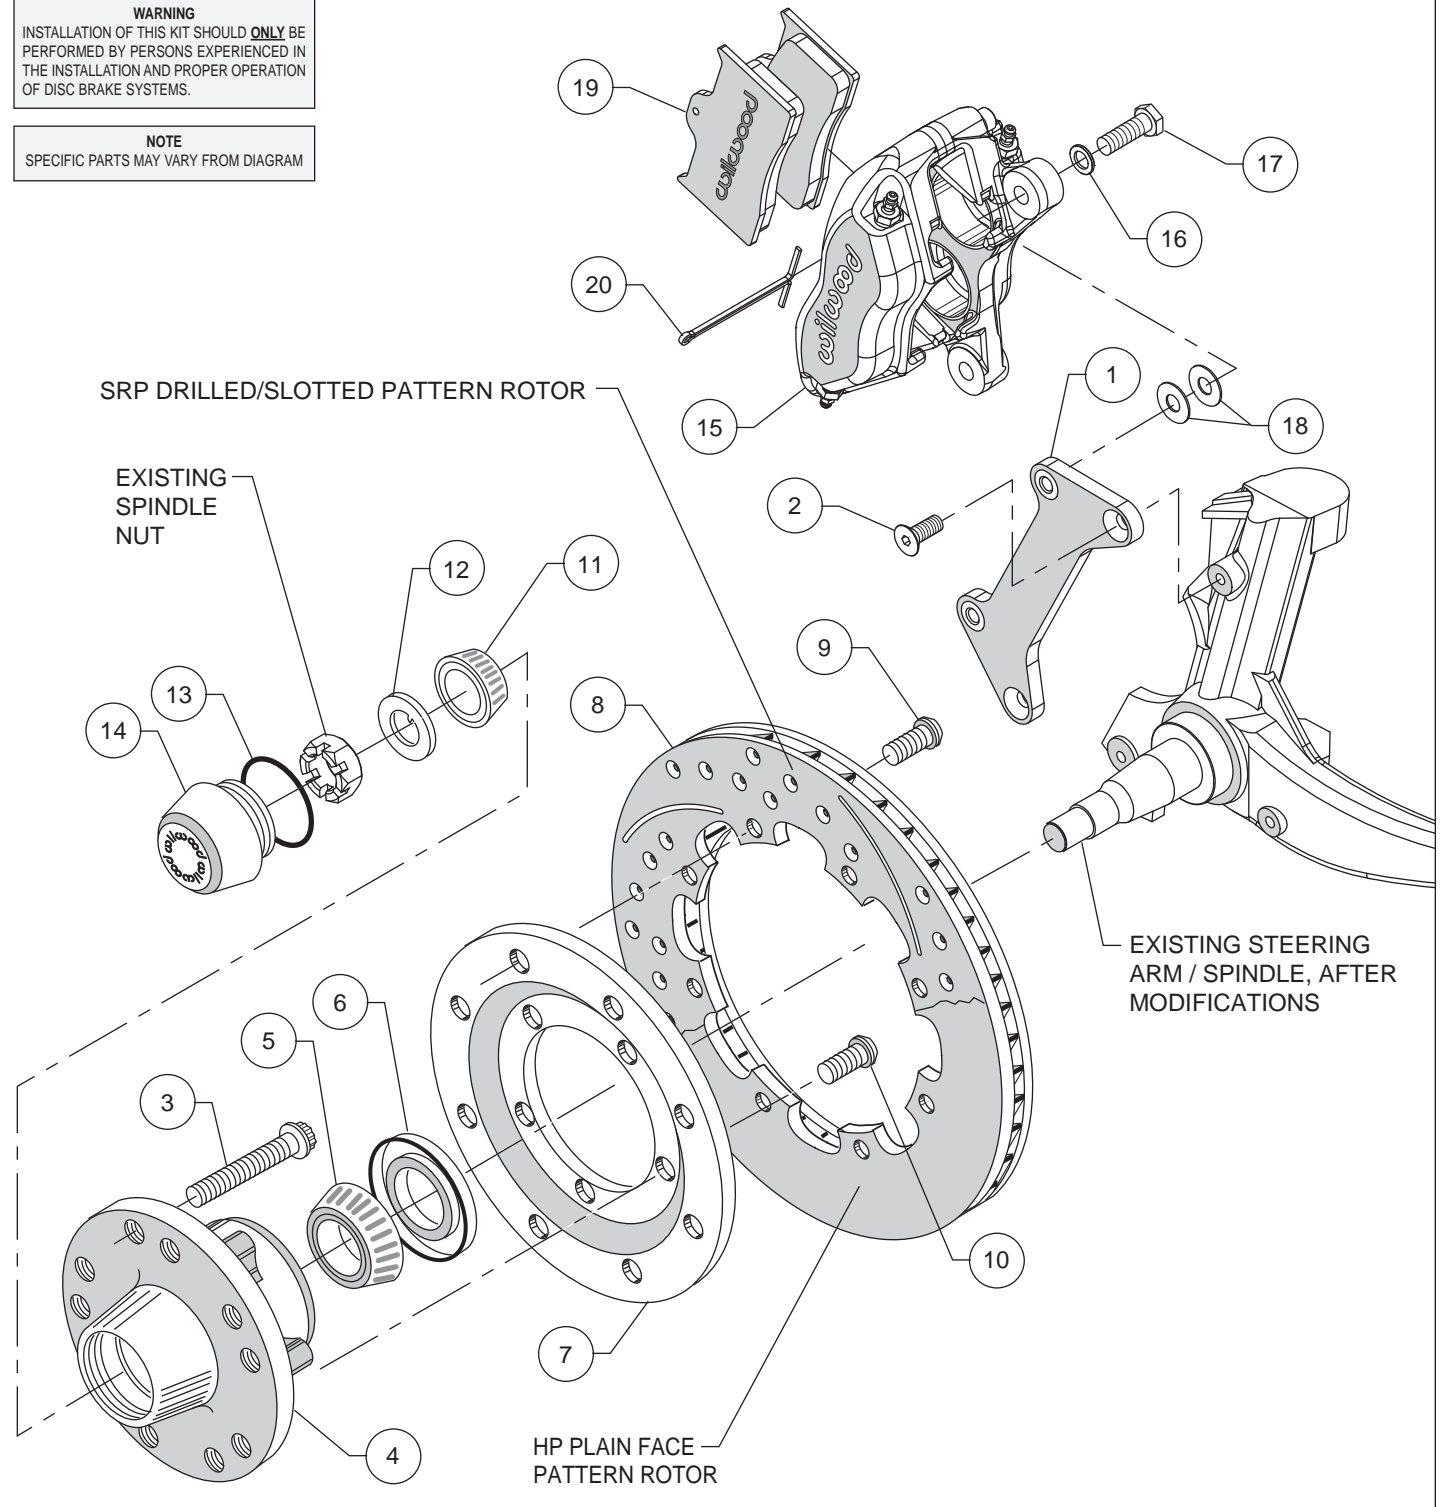
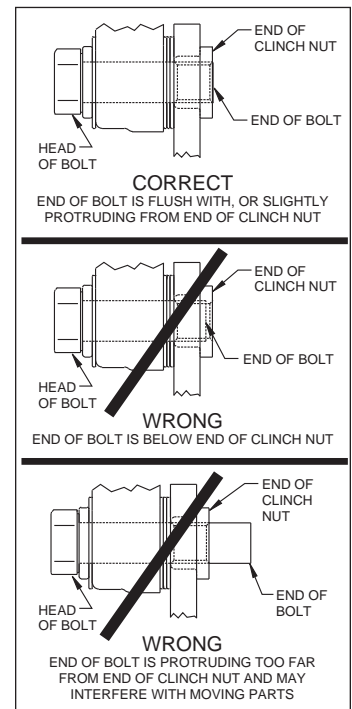

Figure 2. Typical Installation Configuration
Figure 4. Clinch Nut Engagement Diagram
Assembly Instructions (numbers in parenthesis refer to the parts list, and Figure 2): **CAUTION:** All mounting bolts must fully engage clinch nuts. Be sure to check that all bolts are either flush or protruding through flanged side of clinch nut after shimming, Figure 4.
- Align caliper mounting bracket (1) with the corresponding holes, to the face of the spindle. Attach using bolts (2) as shown in Figure 2 and Photo 1. Temporarily tighten the mounting bolts. Ensure that the flanged heads of the clinch nuts in the bracket are facing outboard, Photo 1. **NOTE:** The bracket must fit squarely against the mounting points on the spindle. Inspect for interference from casting irregularities, machining ridges, burrs, etc. Remove bolts one at a time, apply red Loctite® 271 to threads and torque to 40 ft-lbs.
- Orient the rotor (8) and the rotor adapter (7) as shown in Figure 2 and Photo 4. Attach the rotor to the adapter using bolts (9). Using an alternating sequence, apply red *Loctite*® 271 to the threads, and torque to 25 ft-lb.
- Mount the adapter/rotor assembly (7/8) to the hub (4) using bolts (10), as shown in Figure 2 and Photo 5. Using an alternating sequence, apply red *Loctite*® 271 to the threads, and torque to 55 ft-lb.
- NOTE:** Please reference the caution statement at the beginning of the assembly instructions. Mount the caliper (15) onto the caliper mounting bracket (1) using bolts (17) and washers (16), as shown in Figure 2. Initially place two .035" thick shims (18) on each bolt between the caliper and the bracket, Photo 8. Temporarily tighten the mounting bolts and view the rotor (8) through the top opening of the caliper. The rotor should be centered in the caliper, Photo 9. If not, adjust by adding or subtracting shims between the bracket and the caliper. Always use the same amount of shims on each of the two mounting bolts. **NOTE:** The end of each bolt must be flush with or slightly protruding from the head of the clinch nut, as shown in Figure 4. If necessary place spare shims between washer (16) and caliper mounting ear to achieve the proper clinch nut engagement. Once the caliper alignment and clinch nut engagement are correct, remove the bolts one at a time, apply red *Loctite*® 271 to bolt threads, and torque to 40 ft-lb.